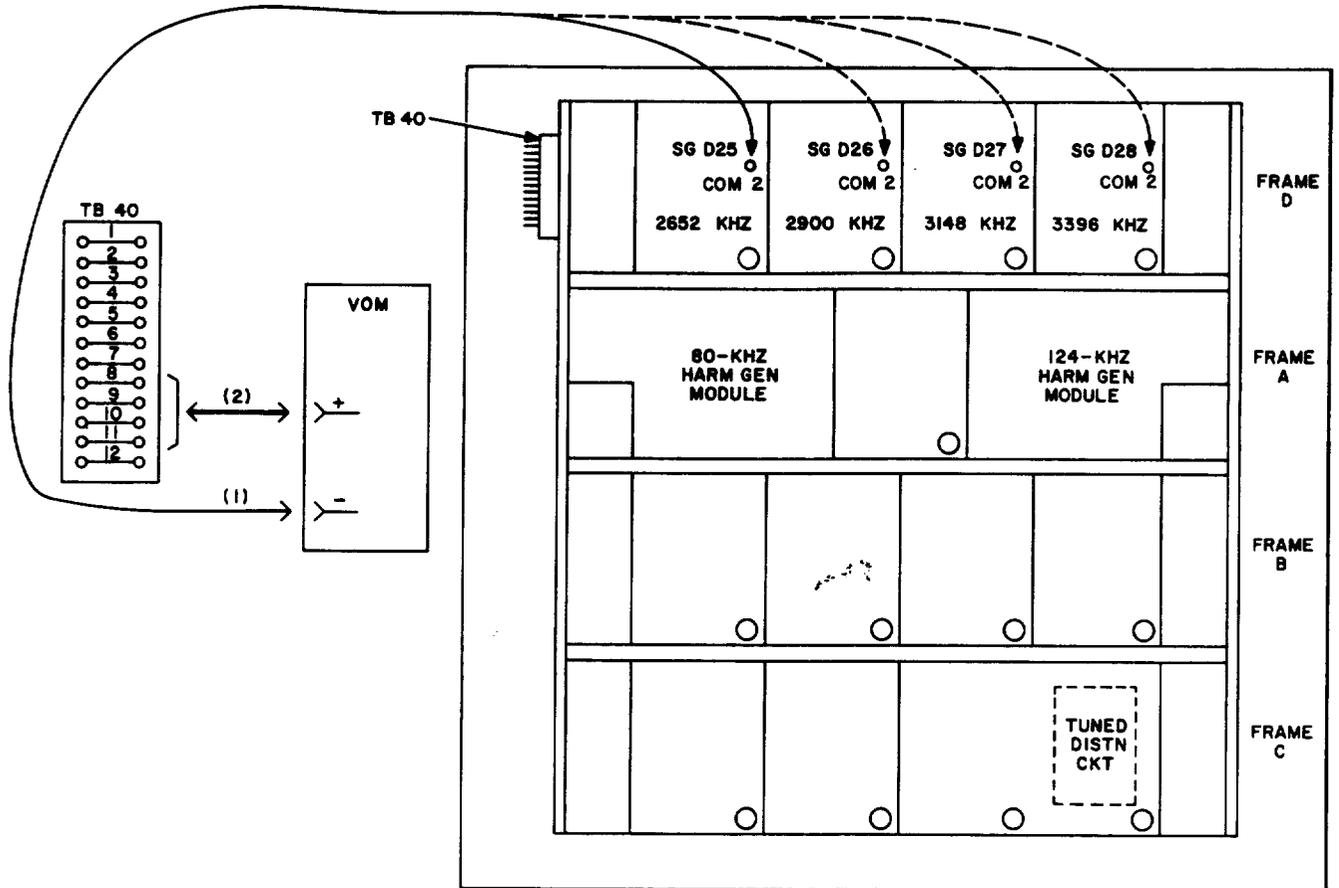

Fig. 2—Measurements at Supergroup Carrier Supply J68857C4
| 3 | Make patch (1) in Fig. 2 on the supergroup carrier supply distribution module associated with the carrier supply modulator to be tested. |
5	Make patch (2) in Fig. 2 at terminal board TB40.♦
10	Remove patches (1) and (2) in Fig. 2.